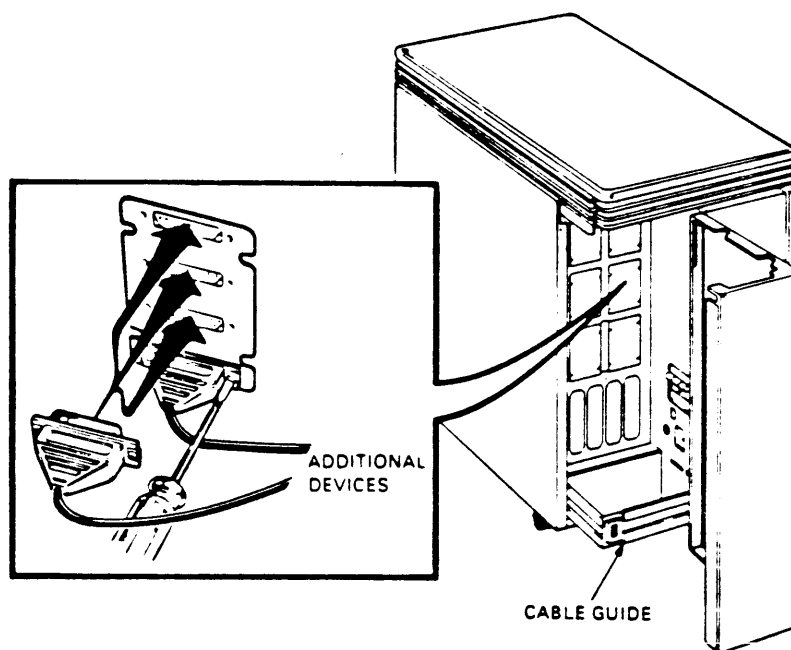

FIGURE 2-12. Connecting Additional devices to a BA123-Based System.
Step 9: Install and connect any additional devices as shown in Figure 2-12. Additional devices may include terminals, printers, modems, and external storage devices. The devices may be connected in any order. Refer to the installation guide included with each device.